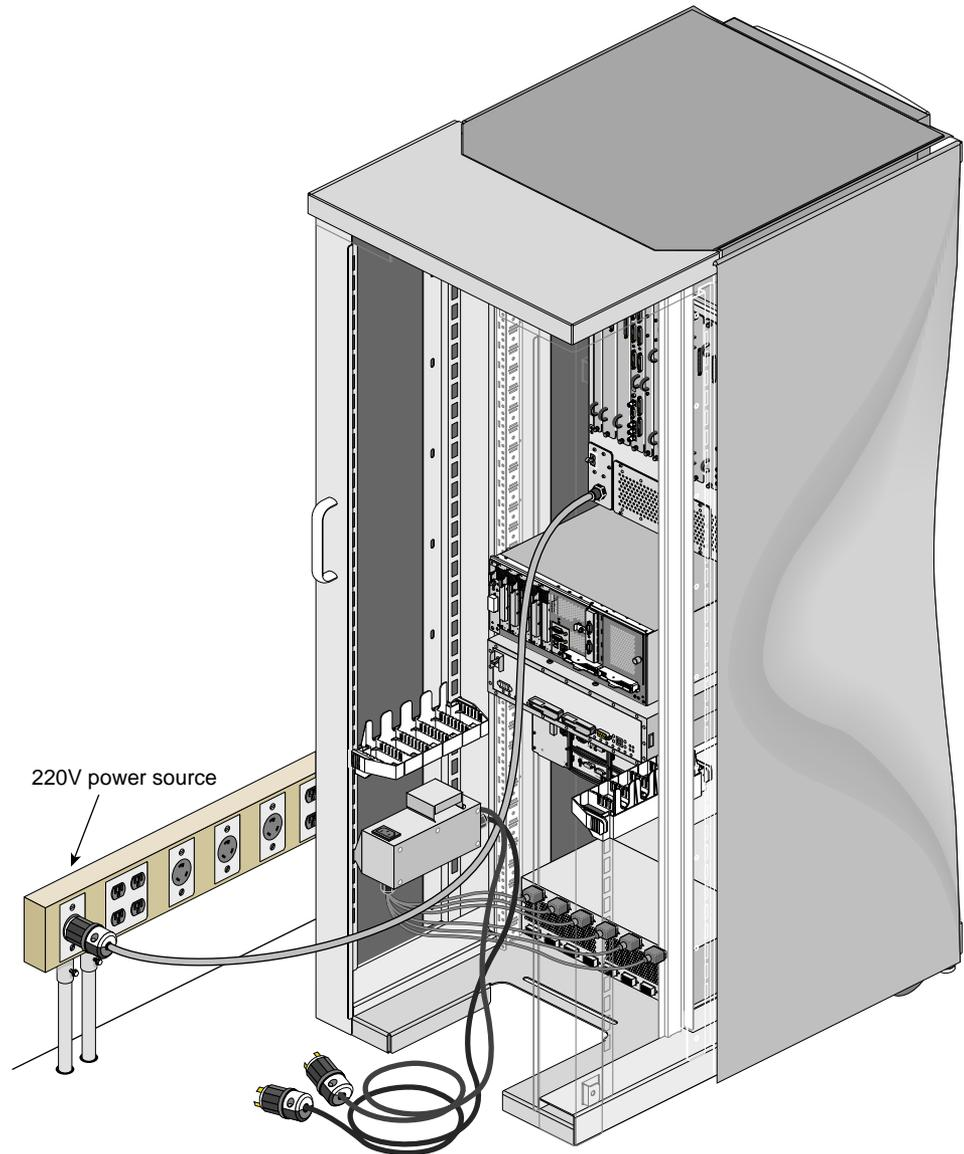

Figure 4-2 Connecting a G-brick Power Cable
- Between the G-brick(s) and the external power receptacle(s) (see Figure 4-2).
Figure 4-2 shows the connection between a G-brick power cable cord and an external power receptacle.